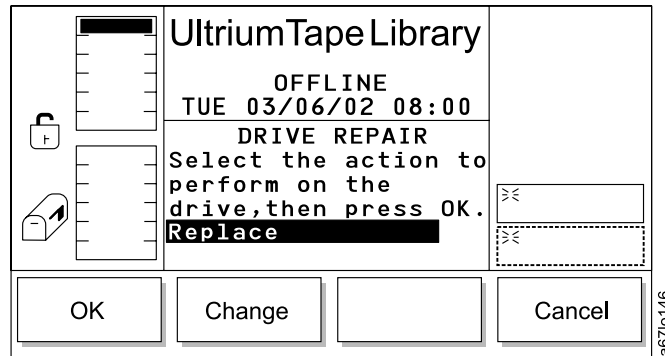

Figure 196. Repair Dialog (Replace)
- If **Change** is selected, the value in the active field toggles (see Figure 196 on page 151).